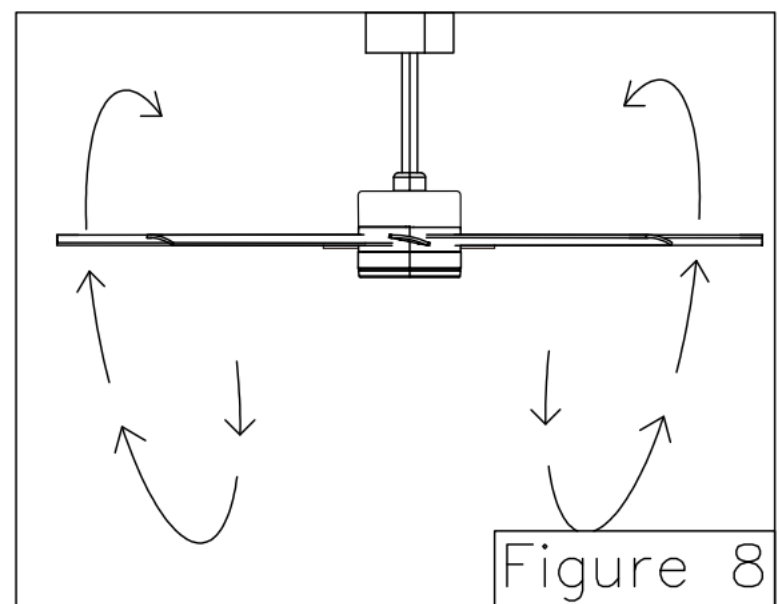

Figure 8
- Cool weather-(Reverse)An upward airflow moves warm air off the ceiling area as shown in.(Figure 8)This allows you to set your heating unit on a lower setting without affecting your comfort.